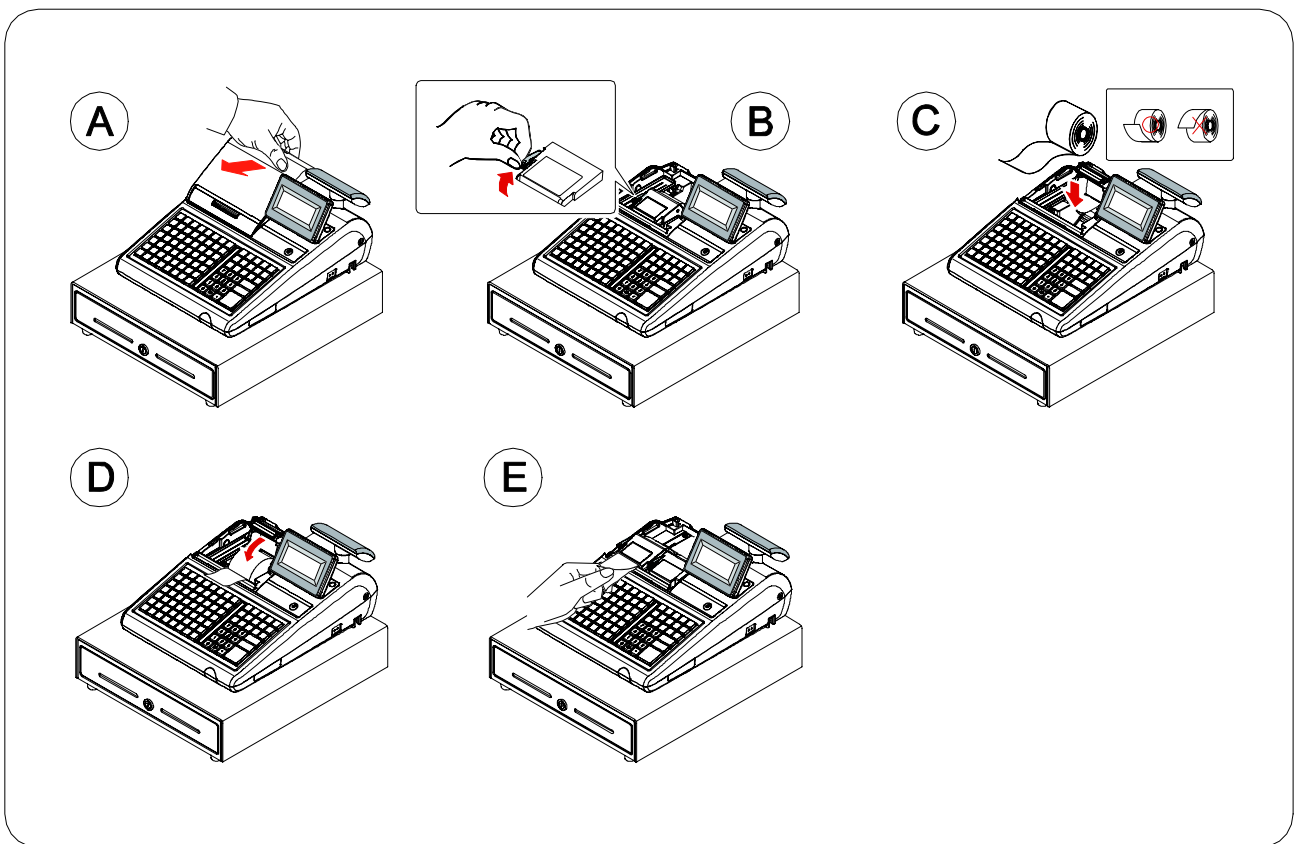

Figure 3-2 Paper Installation (1-Station)
1. Remove the cover printer.(Fig 3-2(A))
2. Push up the green lever toward and then lift up to open the paper cover. (Fig 3-2(B))
3. Ensure that the paper is being fed from the bottom of the roll. (Fig 3-2(C))
4. Close the paper cover slowly until it locks firmly.(Fig 3-2(D))
5. Passing the leading edge of the paper through the cutter slot. Tear off the excess paper.(Fig 3-2(E))
5. Place the roll into the concave bottom of the PRINTER as shown in Figure3-2(C).
6. Put the leading edge of the paper over the PRINTER as shown in Figure3-2(D).